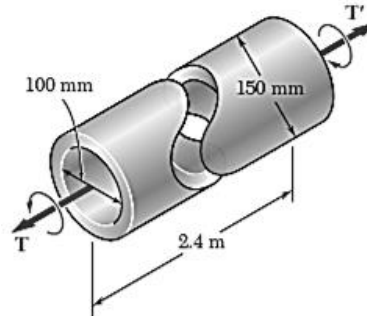

Fig. 3
3. The preliminary design of a large shaft connecting a motor to a generator calls for the use of a hollow shaft with inner and outer diameters of mm and 150 mm, respectively. Knowing that the allowable shearing stress is 84 MPa, determine the maximum torque that can be transmitted (a) by the shaft as designed, (b) by a solid shaft of the same weight, (c) by a hollow shaft of the same weight and of 200-mm outer diameter. (Fig. 3)